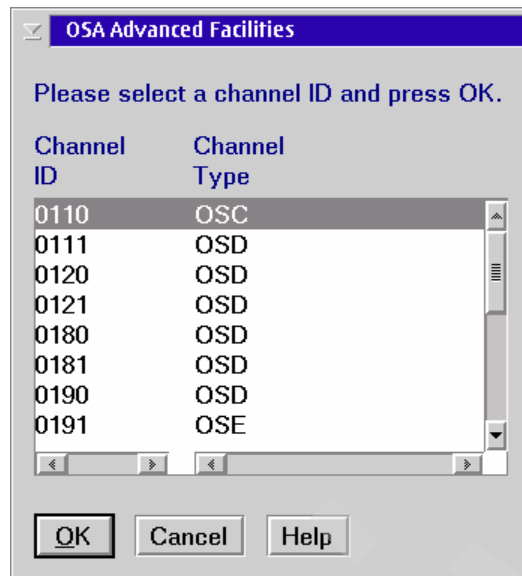

Figure 3-3 OSA advanced facilities PCHID selection
2. Select the CPC object in the Defined CPCs Work Area of the HMC Workplace, and double-click the **OSA Advanced Facilities** task. The OSA Advanced Facilities PCHID selection panel is displayed (see Figure 3-3).